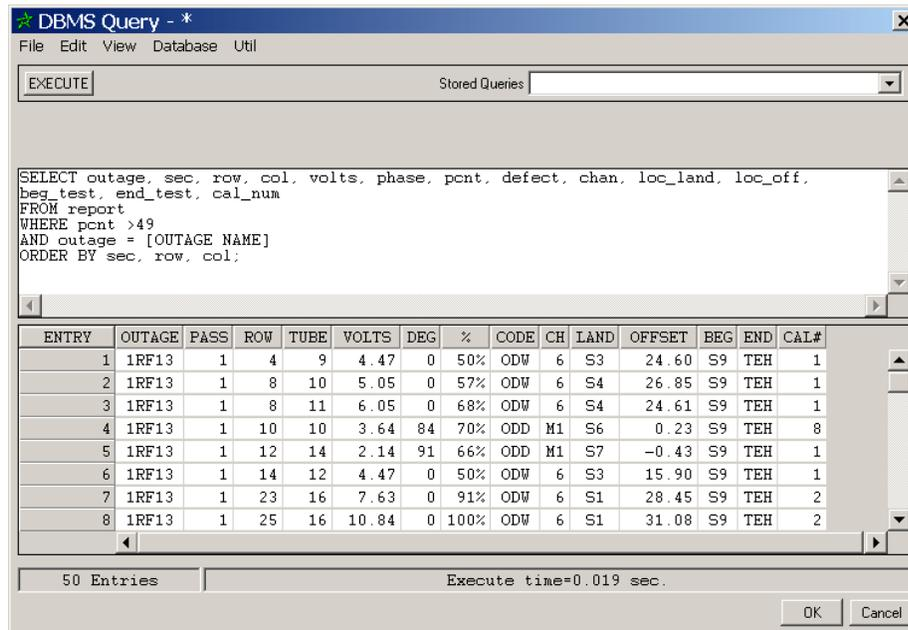

Figure 16-6. Executing a Query That Returns Specific Inspection Results
STEP 6: As shown in Figure 16-6, a list of 50 entries should appear in the lower section of the *Query* dialog.
- STEP 3:** Click **OK** on the **Parameters** dialog if it appears. The retrieved records should now appear in the lower section of the **Query** dialog as shown previously in Figure 16-6.